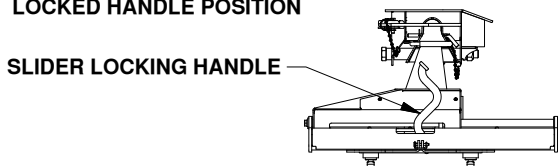

Figure H2: Side view of slider base. UNLOCKED HANDLE POSITION
2. Pull the handle toward the rear of the truck to move it to the unlocked position, shown in Figure H2.
6. Pull the handle toward the rear of the truck to move it to the unlocked position, shown in Figure H2.